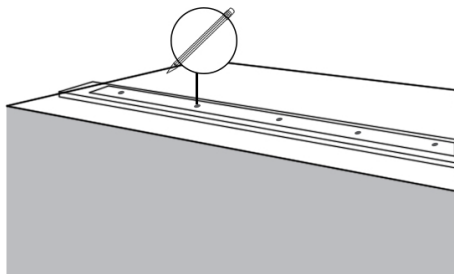

FIGURE 12
- Place the mounting board on a flat surface. Center the track on the mounting board, ensuring the track is straight and aligned properly. Using a pencil, mark the locations of the track mounting holes onto the board (see FIGURE 12).